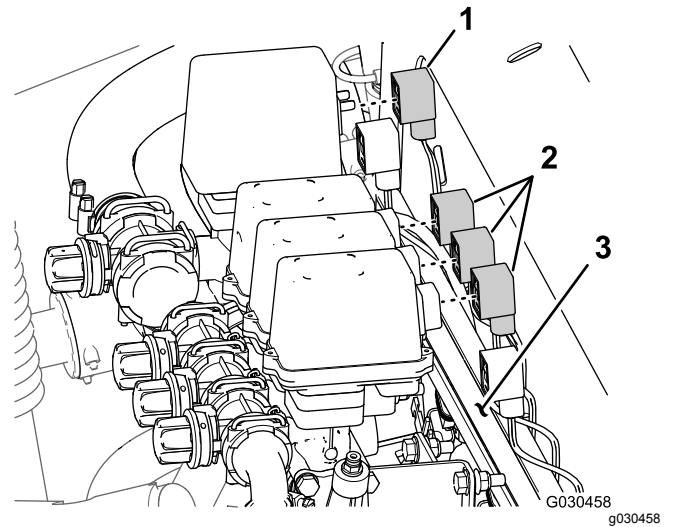

Figure 55
- At the back of the manifold mount, disconnect the 3-socket connector from the agitation valve and the 3-socket connectors from the 3 boom-section valves (Figure 55).